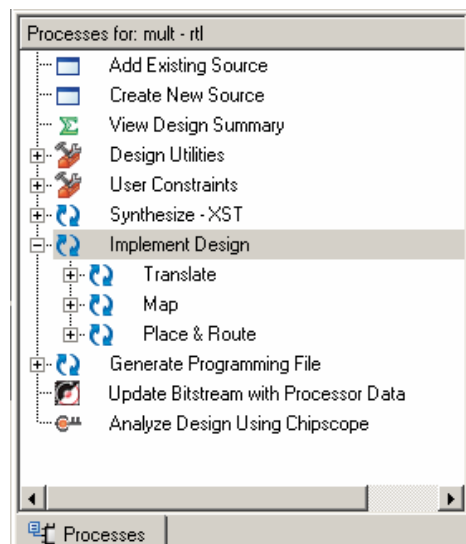

Figure 4.1 - Processes for Source Window
- ❶ In the Sources For window, select **Synthesis/Implementation** from the drop-down list and select the **mult.vhd or mult.v** top level module.
- ❷ In the Processes for Source window, double-click **Implement Design** (Figure 4.1)